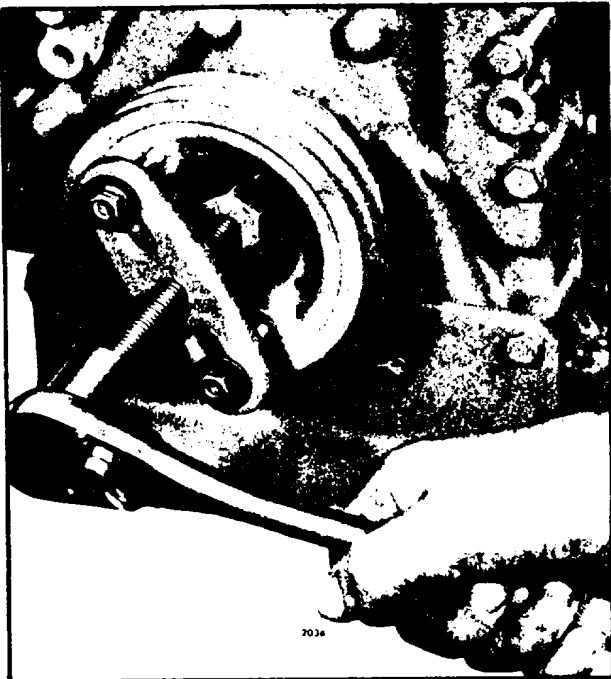

Fig. 1 · Removing Crankshaft Pulley Using Puller J 4794-01
3. If a rigid type pulley is being removed install the pulley retaining bolt and puller J 4/94-01 as shown in Fig. 1. Then force the pulley off the crankshaft by turning the puller center screw in.